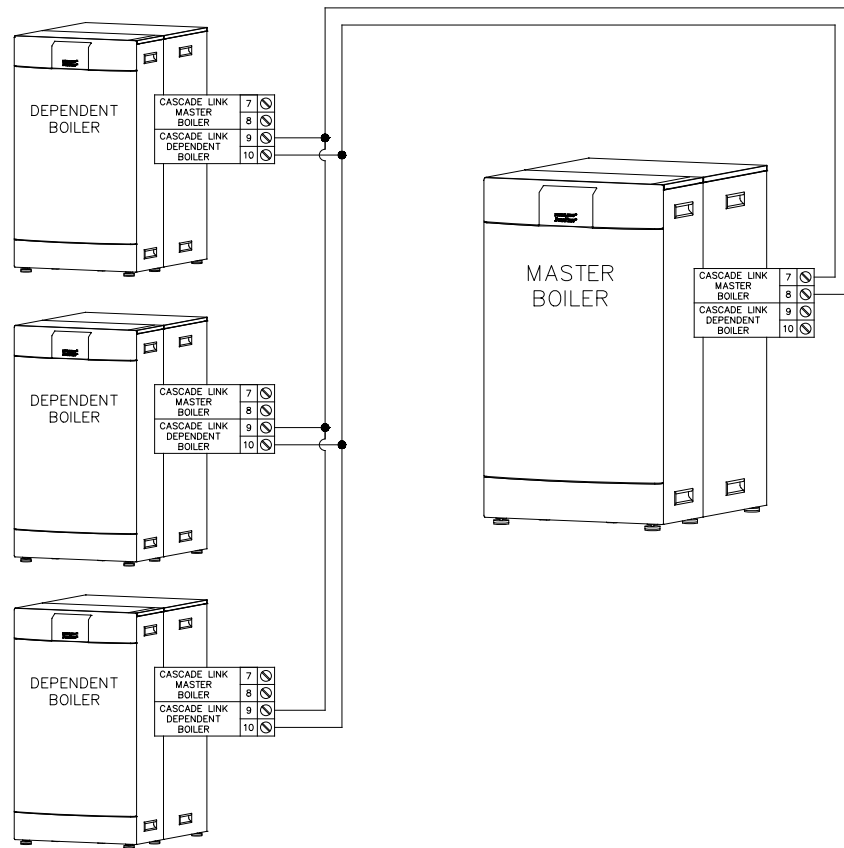

Figure 8.9: Multi Boiler Wiring - Daisy Chain
- a. Figures 8.9 and 8.10 shows the wiring configurations. This method creates independent connections to each dependent boiler to reduce risk of communication loss between boilers.